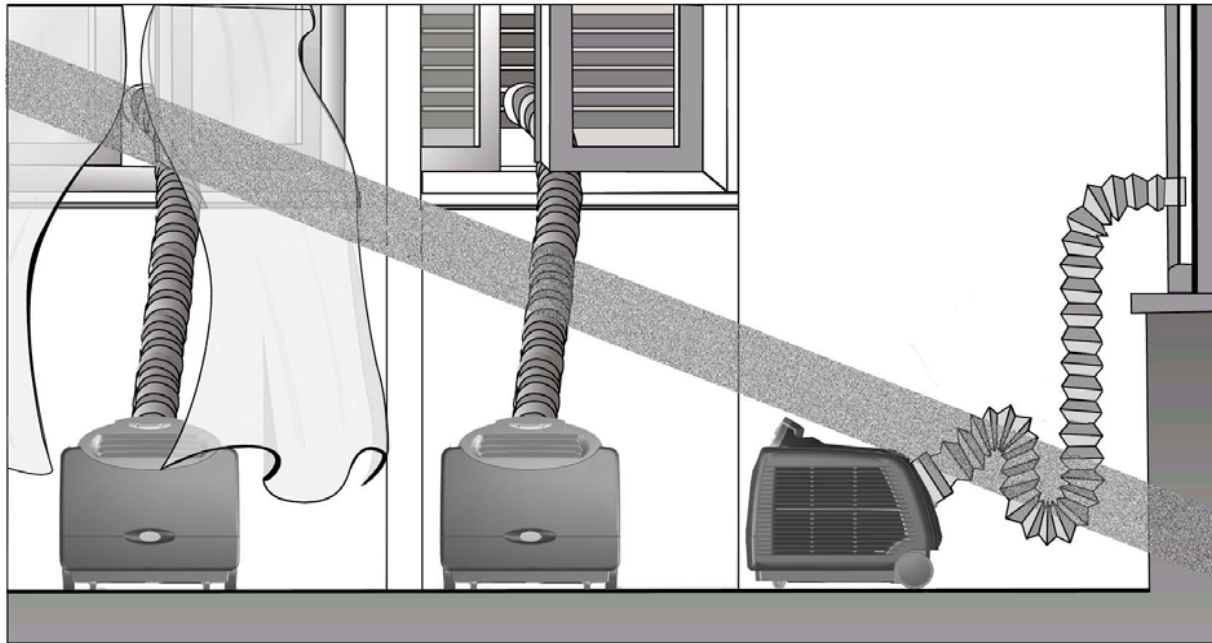

Fig. 2 **Incorrect setup**
- Ensure curtains or other objects are not obstructing the air inlet filters. (Fig.2)
- Do not bend or crush the exhaust hose while in use. (Fig.2)